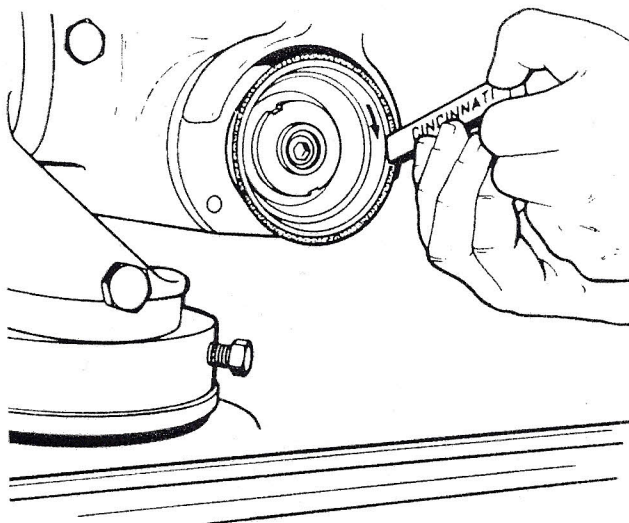

Fig. 8-16 Opening up the face of a diamond grinding wheel with a silicon carbide dressing stick. (Courtesy of Cincinnati Milacron Co.)
3. Hold the dressing stick firmly and bring it into contact with the revolving diamond wheel (Fig. 8-16).